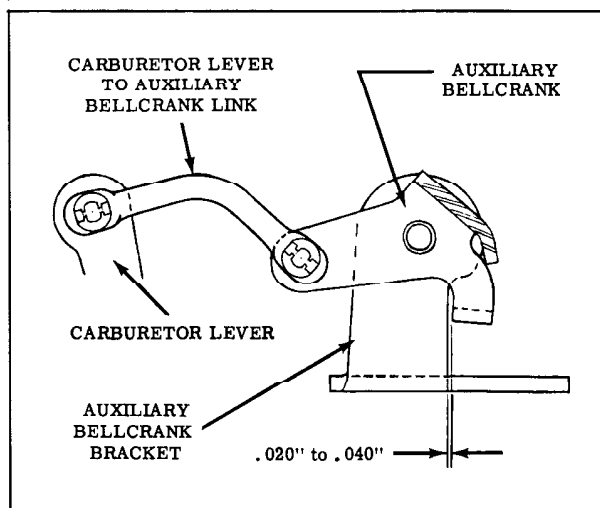

Fig. 11-4 Carburetor Lever to Auxiliary Bellcrank Adjustment (2 Barrel)
- b. 2GC - Repeat Step "a" with the exception that the clearance is measured between the auxiliary bellcrank bracket, bolted to the manifold, and the auxiliary bellcrank. (Fig. 11-4)